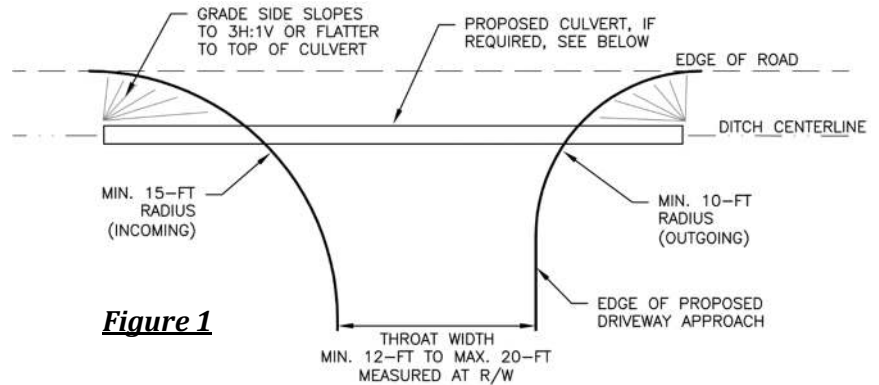

Figure 1
- At a minimum, the gravel portion of the driveway approach shall meet the dimensions in **Figure 1**.